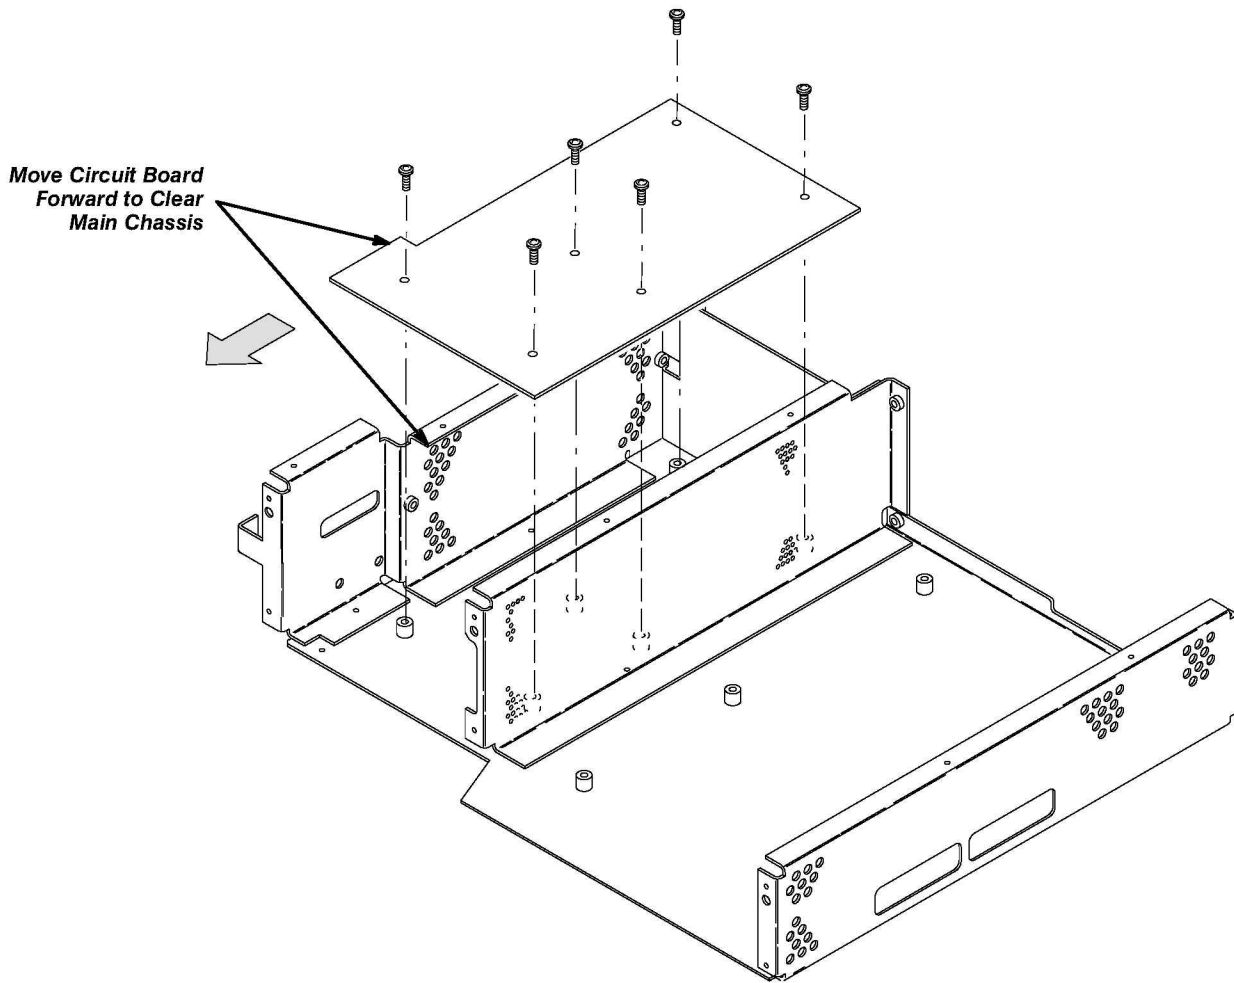

Figure 6-27: Display Driver Board Removal
5. *Remove the display supply board:* Use Figure 6-27 as a guide.